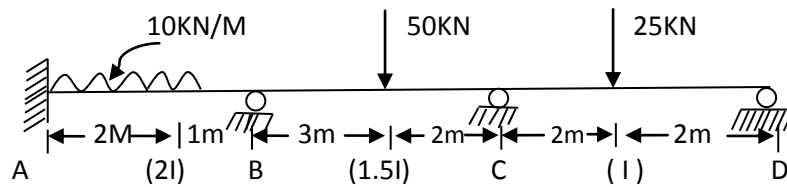

Fig. 6
Q.8 Analyze the continuous beam shown in fig.6 by Kani's method and draw BMD. 15